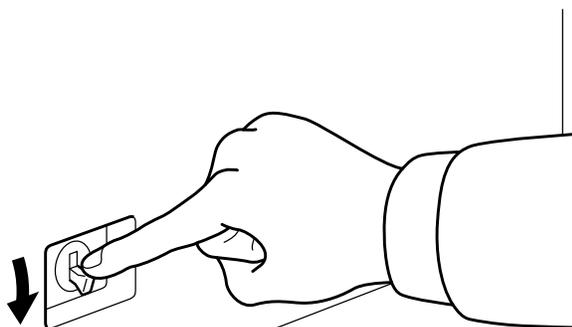

Figure 5-18
1. Check that the printer circuit breaker is in the OFF position (Figure 5-18).